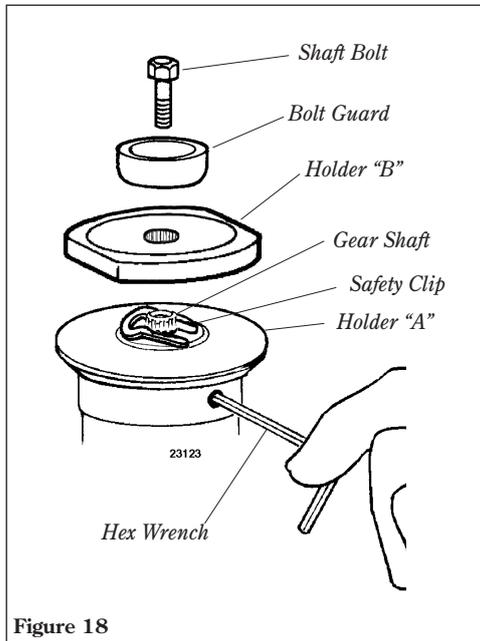

Figure 18
- output shaft by inserting a hex wrench through both holes. See Figure 18.
2. Slide the safety clip off-center. See Figure 18.
4. Lock the blade in place by centering the safety clip on the output shaft. See Figure 18.